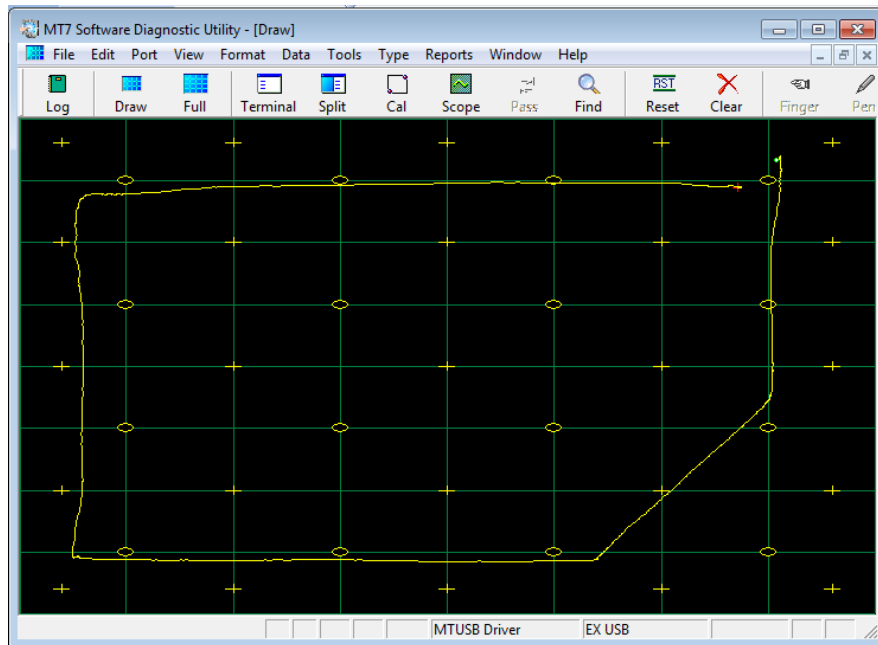

Figure 4 Full Draw Screen that is bad, broken bottom right corner
6.2.4.2.1. If the results observed are not square in shape or are similar to something of a triangle shown in (Figure 4); the touch screen has a damaged corner or a break in the pattern near a corner. The open corner will be related to the same open corner result from the draw screen.